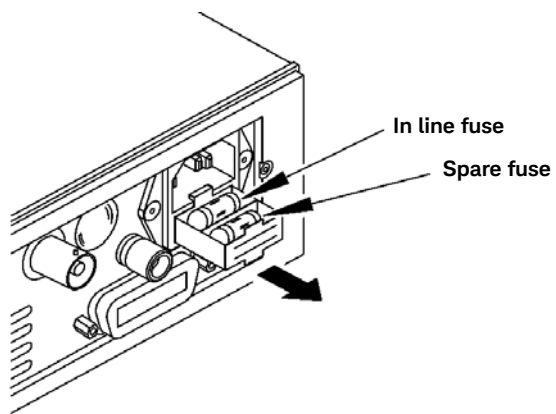

Figure 8-4 Replacing the fuse
- 2 Slide the fuse holder assembly from the rear panel as shown in Figure 8-4.
- 3 Install the correct fuse in the "In line" position as shown in Figure 8-4. (A spare fuse can be stored in the fuse holder assembly.)